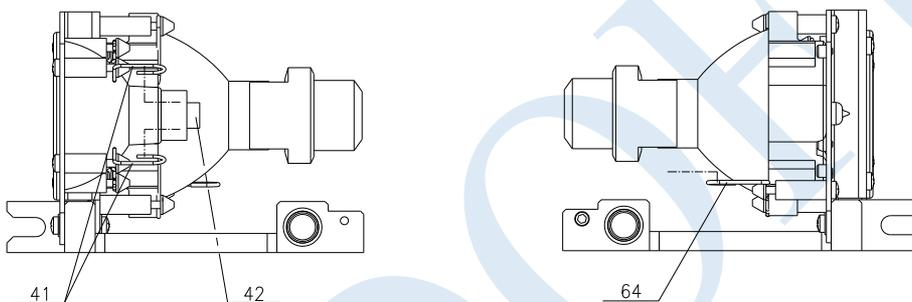

Fig. 11
2. Replacement of bulb after operation. Open the side door of the lamp house by the knob [15]. Take out of the halogen bulb after releasing the spring through the method showed in fig. 11, and pull out clay socket[44]. Then replace the new bulb by the contrary steps. (Fig 11). The replacement of xenon bulb is similar.